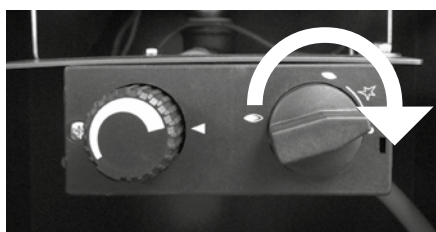
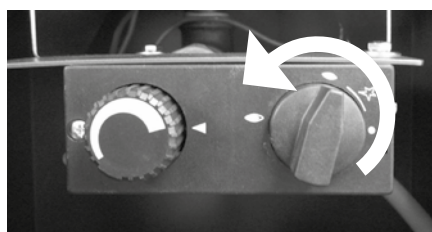

Fig. 4
Fig. 5
1. Turn the ignition knob on the gas control panel (Fig. 4) as far to the right as possible. Push in the ignition knob. Then, turn it to the left, keeping it pushed in until you hear a "click" (Fig. 5). This "click" is the ignition of the pilot light. If necessary, repeat this process 3-5 times until the pilot light is burning.
1. By turning the ignition knob to the right again (Fig. 4), you will shut off the gas supply and the fire will go out.